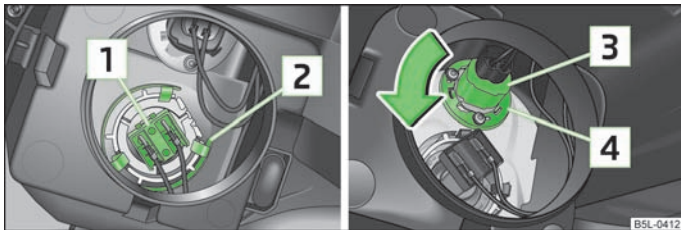

Fig. 172 Removing: bulb for fog lights/daylight driving lights
- > Disconnect plug **1** » Fig. 172.
- > Disconnect plug **3** » Fig. 172.